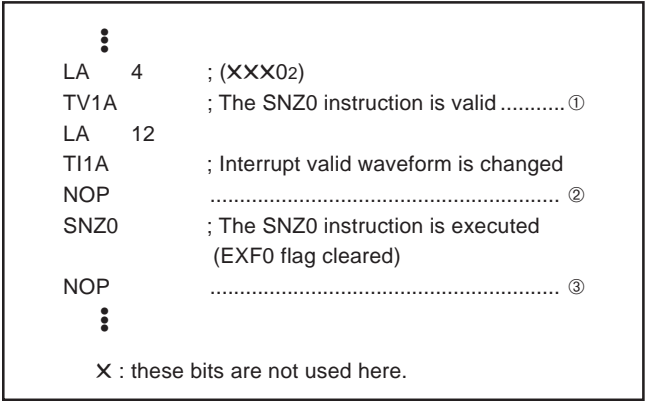

Fig. 20 External 0 interrupt program example-3
- Depending on the input state of the P30/INT0 pin, the external 0 interrupt request flag (EXF0) may be set when the bit 2 of register I1 is changed. In order to avoid the occurrence of an unexpected interrupt, clear the bit 0 of register V1 to "0" (refer to Figure 20①) and then, change the bit 2 of register I1. In addition, execute the SNZ0 instruction to clear the EXF0 flag after executing at least one instruction (refer to Figure 20②). Also, set the NOP instruction for the case when a skip is performed with the SNZ0 instruction (refer to Figure 20③).